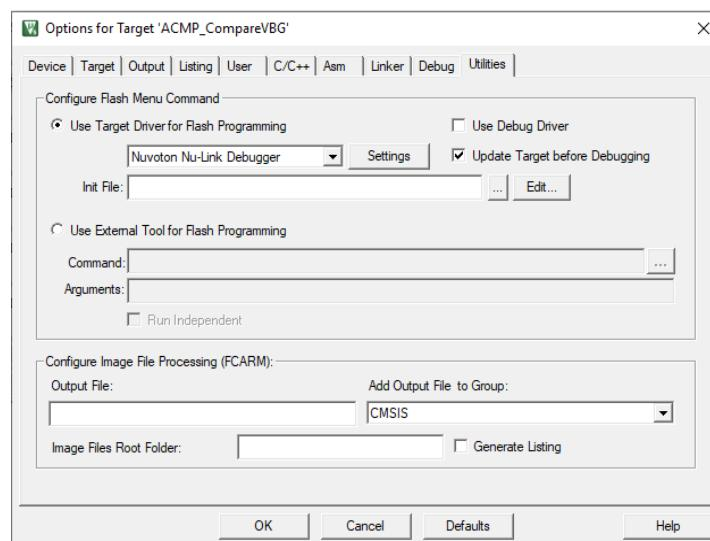

Figure 5.2-15 Keil MDK Programmer Selection
- (5) Invoke **Project → Options for Target → Utilities**, select “**Nuvoton Nu-Link Debugger**” when the **Use Target Driver for Flash Programming** option is enabled, and then select the **Update Target before Debugging** option, as shown in Figure 5.2-15.